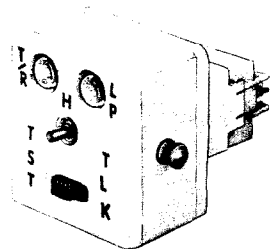

Fig. 7—B Key Equipment Test Block
2.11 The *B key equipment test block* (Fig. 7) is designed to be attached to 88-type connecting blocks. It is used for checkout of key equipment circuitry at the termination field. The test block permits connections to be made to terminated cable pairs, with or without the cross-connecting wire in place.